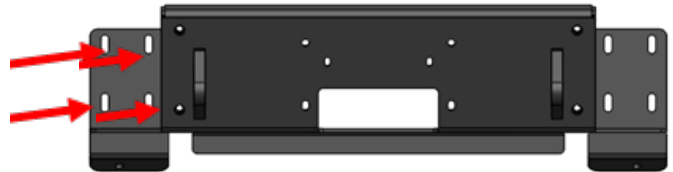

Figure 1
1. Once the brackets have been installed using the bracket hardware kit, take the winch tray assembly and install it onto the brackets using the eight (8) 1/2" bolts, flat/lock washers and nuts with a 3/4" socket wrench. Figure 1.